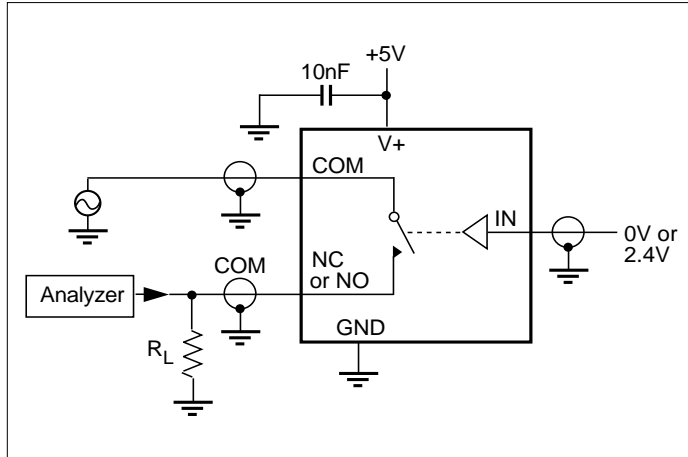

Figure 5. Off Isolation
- Off Isolation = 20log₁₀ [V_{COM} / (V_{NC} or V_{NO})]. See Figure 5.